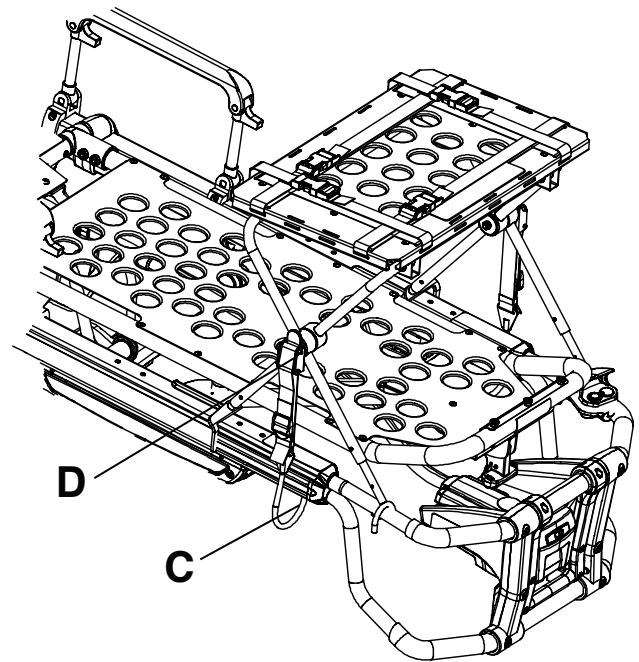
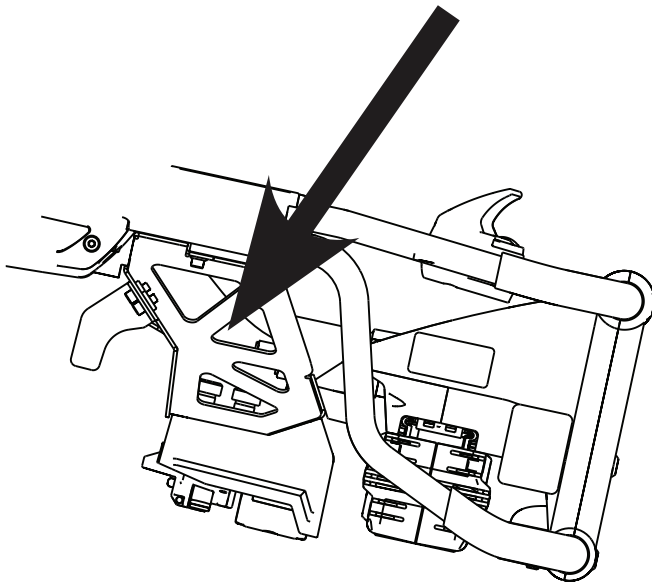

Figure 39 – Latch hook placement (Model 6506 shown)
Figure 40 – Tab (Model 6506 shown)
6. Place the latch hook (C) under the litter frame or foot end fastener and push the tab (D) up until it locks into place on one side with an audible click (Figure 39). Repeat on the other side. For **Power-LOAD** compatible cots, if equipped, you must lengthen and attach the straps to the foot end fastener (Figure 40).